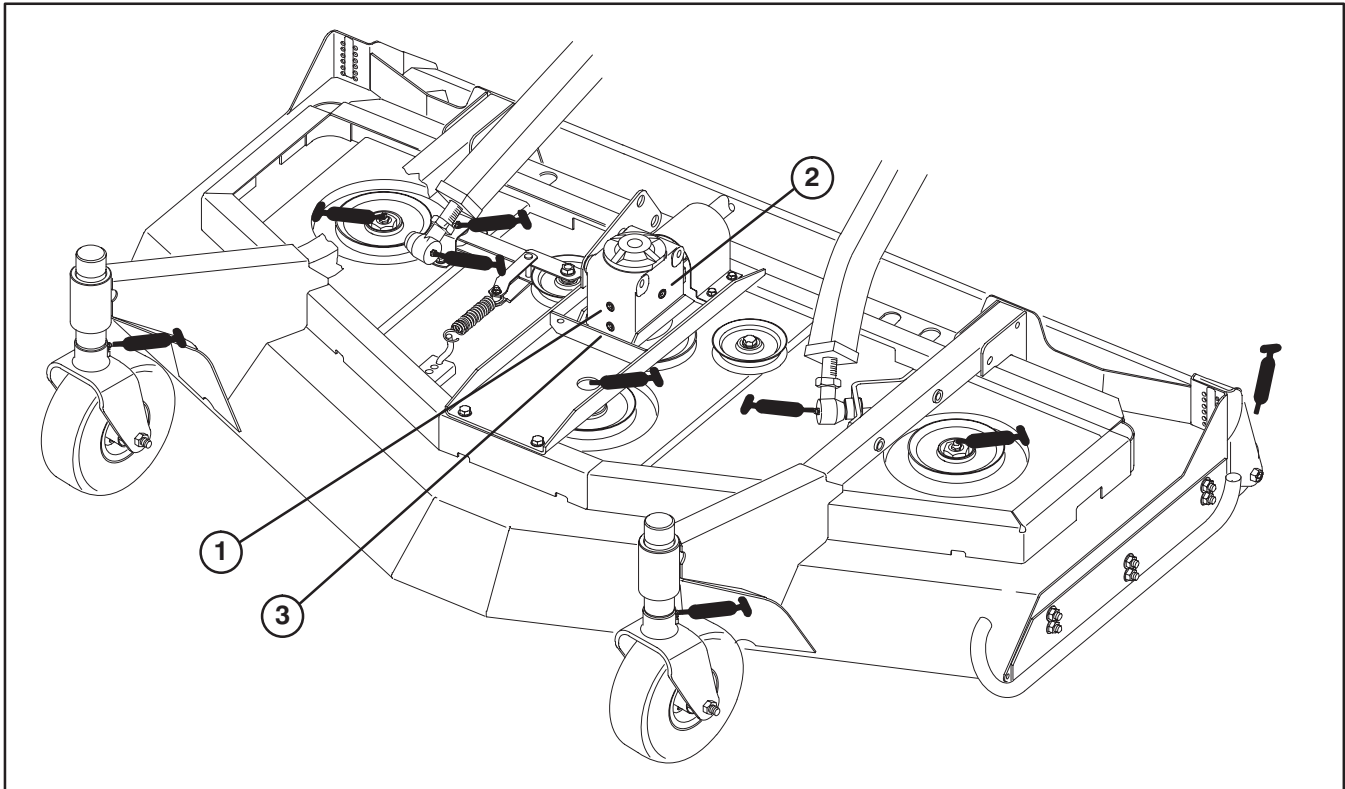

Figure 18
GREASE BEARINGS, BUSHINGS AND GEAR BOX (Fig. 18)
1. The cutting unit has bearings and bushings that must be lubricated, and these lubrication points are: front castor shaft bushings (2), blade spindle bearings (3), gage wheels (2), idler arm pivot and right and left push arm ball joints (Fig. 18).